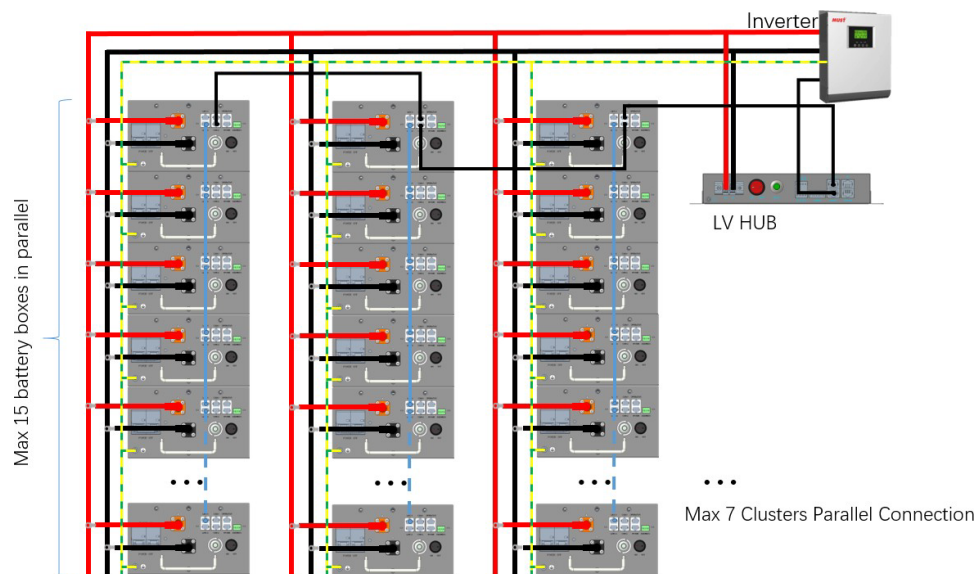
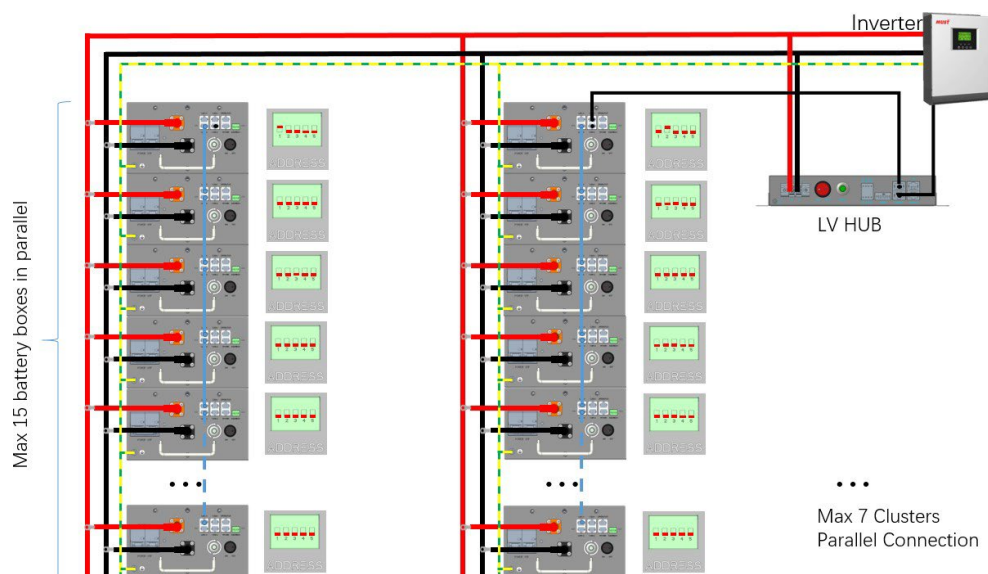

Figure 7 - Multi-Cluster Cable Connection, drawing is for reference only.
Figure 8 - Multi-Cluster DIP Switch Addresses, drawing is for reference only.
- Refer to Figure 7 and Figure 8 as a reference for connections in the following steps.